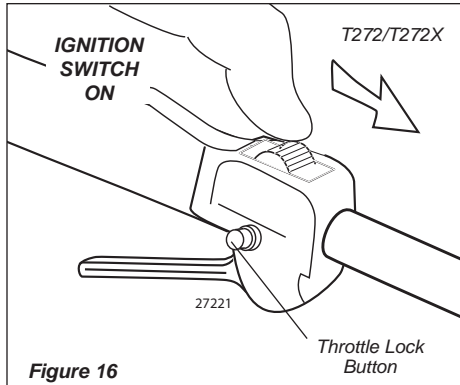

Figure 16
1. Slide the ignition switch to the “ON” position. See Figure 16.
- c. While depressing the throttle lock button, release the throttle lever. See Figure 16.